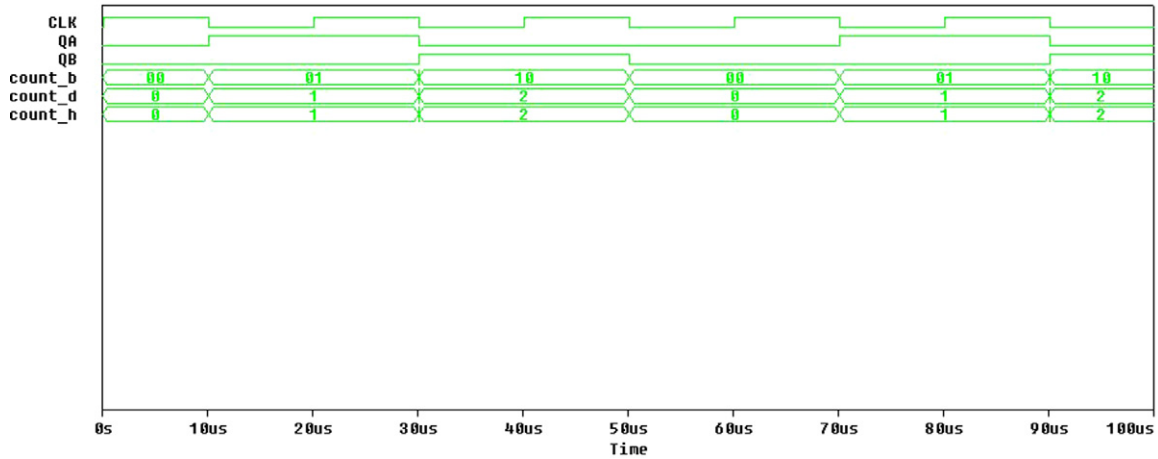

FIGURE 18.9
10. Your Probe waveforms should resemble those shown in Figure 18.9, which is that of a modulus 3 counter with a count sequence of 0,1,2,0,1,2,0, etc.